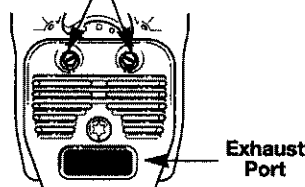

Fig. 28
The muffler should be removed **every 25 hours of operation** to inspect for excessive carbon build-up. Excessive deposits around the exhaust port (Fig. 28) or exhaust holes will cause poor engine performance.
1. Remove the muffler mounting bolts (Fig. 28).
2. Install the muffler with the muffler mounting bolts (Fig. 28) and torque the bolts to **80-90 in•lb (9-10.1 N•m)**.